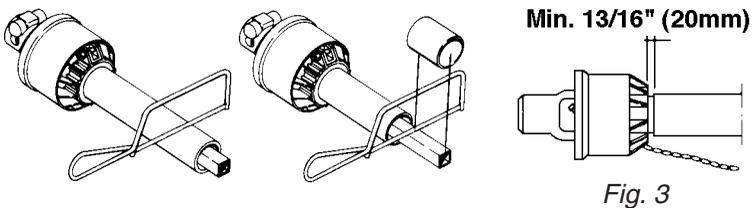

Fig. 3
4. The two parts are shortened equally. Use a saw, and file the profiles afterwards to remove burrs (Fig. 3).